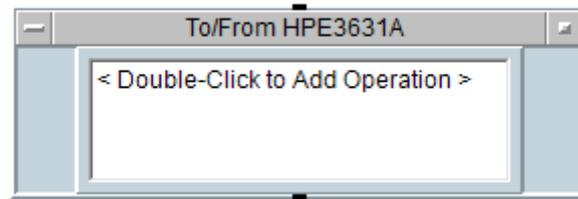

Fig. 12: IVI driver object for Agilent E3631A
6) The IVI driver object for Agilent E3631A is shown in Fig. 12. This driver will control the **+25 V (V_{DD})** output of the power supply.